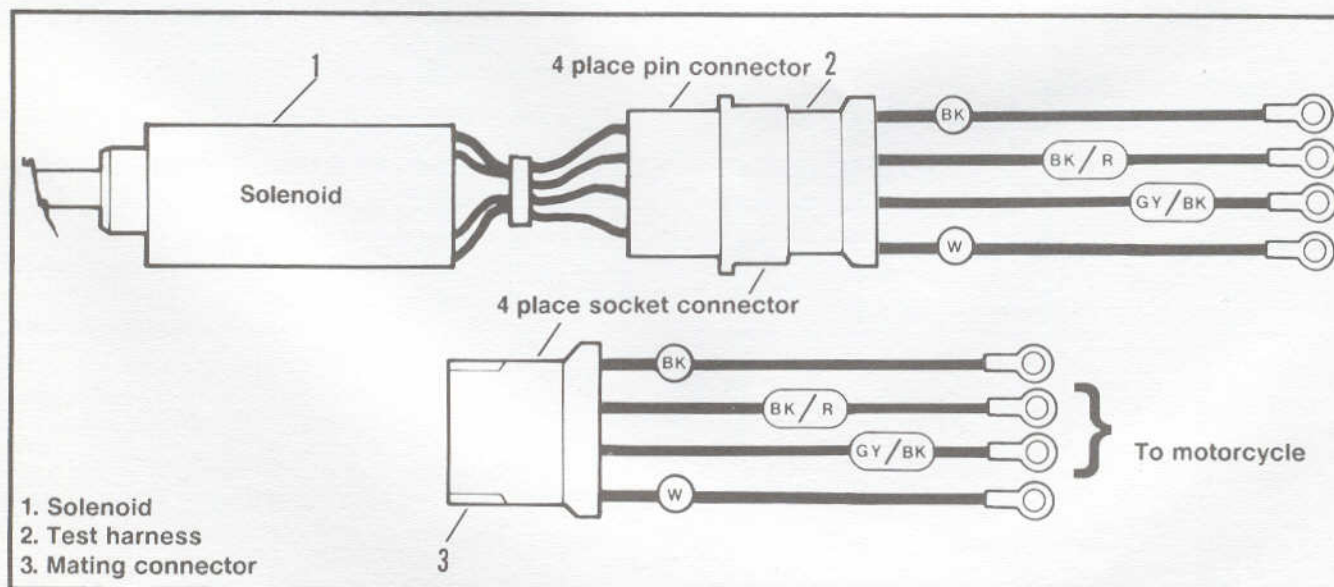

Figure 8-29. Resistance Tests Connections
- See figure 8-29. Connect the solenoid test harness to the solenoid as shown.
- A. A good ground (1 Ohm or less) at the GY/BK wire in the 4-place socket connector (3, figure 8-29).
6. If butterfly valve did not remain open in step 3, check that the white lead at the connector (3, Figure 8-29) has a good ground.